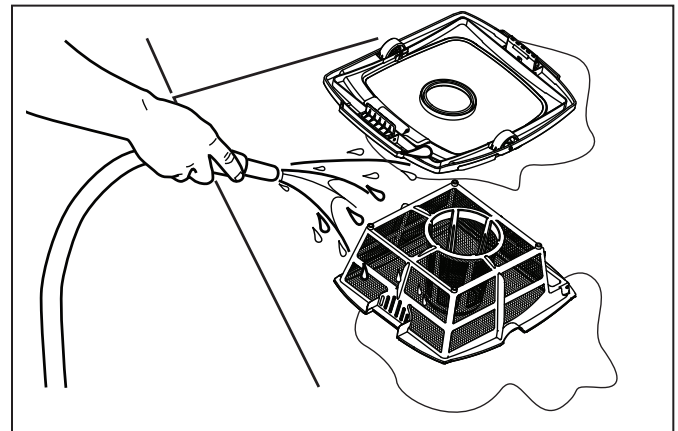

Figure 19. Rinse the Filter Canister
5. Using a hose with clean water, rinse the filter canister and lid to remove all debris (see Figure 19).